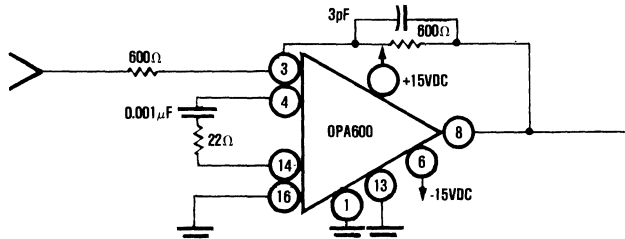

FIGURE 9. Amplifier Circuit for Increased Stability.
For heavy capacitive loads, greater than 50pF, refer to the section on capacitive loads, paragraph 8.6. For particularly difficult applications where the wiring layout may not be the best or where there may be 1000pF loads, parasitics, strays, long lead lengths, changing capacitive loads, etc., doublet compensation is recommended. This is discussed in paragraph 8.12 and is shown in Figure 9. This circuit offers increased stability at the expense of increasing the settling time by approximately 50%. Also, this circuit is especially useful for functional testing at low frequency and incoming inspection.
For very-large capacitive loads, greater than 100pF, it will be necessary to use doublet compensation. Refer to Figure 9 and paragraph 8.12. This places the dominant pole at the input stage. Settling time will be approximately 50% slower; slew rate should increase. Load capacitance should be minimized for optimum high frequency performance.
8.11 Testing. For static and low frequency dynamic measurements, the OPA600 may be tested in conventional operational amplifier test circuits, provided proper grounding techniques are observed, excessive lead lengths are avoided, and care is maintained to avoid parasitic oscillations. See the above sections, especially paragraphs 8.1 and 8.2. The circuit in Figure 9 is recommended for low frequency functional testing, incoming inspection, etc. This circuit is less susceptible to stray capacitance, excessive lead length, parasitic tuned circuits, changing capacitive loads, etc. It does not yield optimum settling time. We recommend placing a resistor (approximately 300Ω) in series with each piece of test equipment, such as a DVM, to isolate loading effects on the OPA600.
8.12 **Increased Slew Rate.** The OPA600 slew rate may be increased by using an alternate compensation shown in Figure 9. The slew rate will increase between 700 and 800V/μsec typical with 0.01% settling time increasing to between 175 and 190nsec typical and 0.1% settling time increasing to between 110 and 120nsec typical.
For alternate doublet compensation refer to Figure 9. For a closed-loop gain equal -1, delete C1 and C2 and add a series RC circuit (R = 22Ω, C = 0.001μF) between pins 14 and 4. Make no connections to pins 11 and 5. Absolutely minimize the capacitance to these pins. If a connector is used for the OPA600, it is recommended that sockets for pins 11 and 5 be removed. For a PC board mount, it is recommended that the PC board holes be overdrilled for pins 11 and 5 and adjacent ground plane copper be removed. Effectively this compensation places the dominant pole at the input stage, allowing the output stage to have no compensation and to slew as fast as possible. Bandwidth and settling time are impaired only slightly. For closed-loop gains other than -1, different values of R and C may be required.